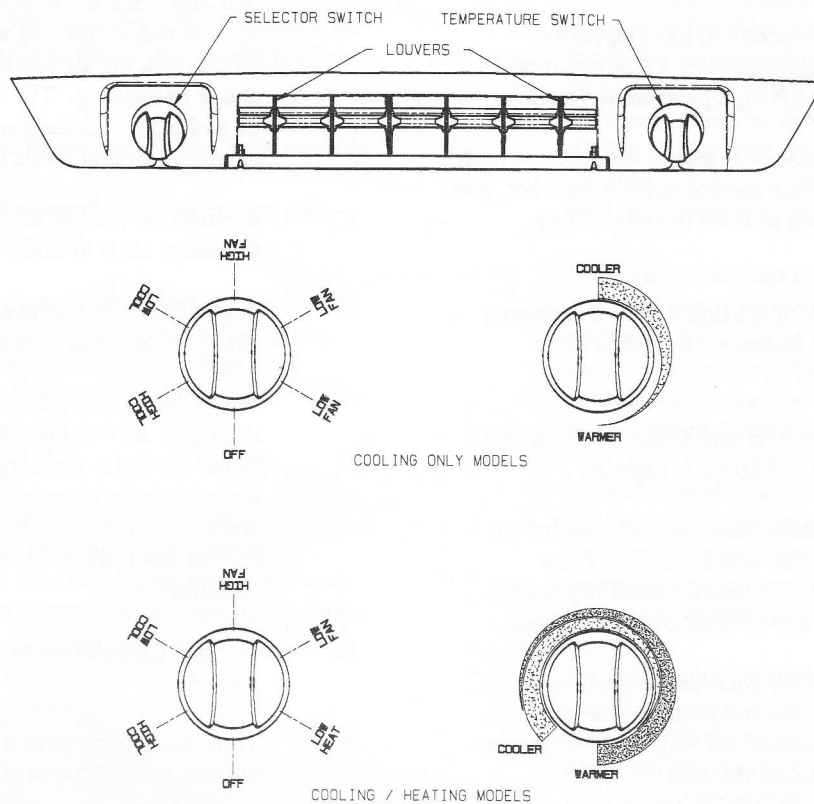

FIGURE 1
A. The Selector Switch – The selector switch determines which mode of operation the air conditioner will be in. By rotating the selector switch, the operator can obtain any system function desired. System functions vary depending upon options of both the roof top unit and ceiling assembly. Figure 1 shows selector switch location and lists all available functions by model.
For "Heat/Cool" models, the thermostat also controls the "ON" and "OFF" temperature settings of the heater assembly (See Figure 1).
- I. For Cooling (Refer to Figure 1, page 3).
### IV. For Heating ("Elect-A-Heat" Ceiling Assembly Model Only) Refer to Figure 1, page 3).
### V. For Air Circulation Only (Refer to Figure 1, page 3).